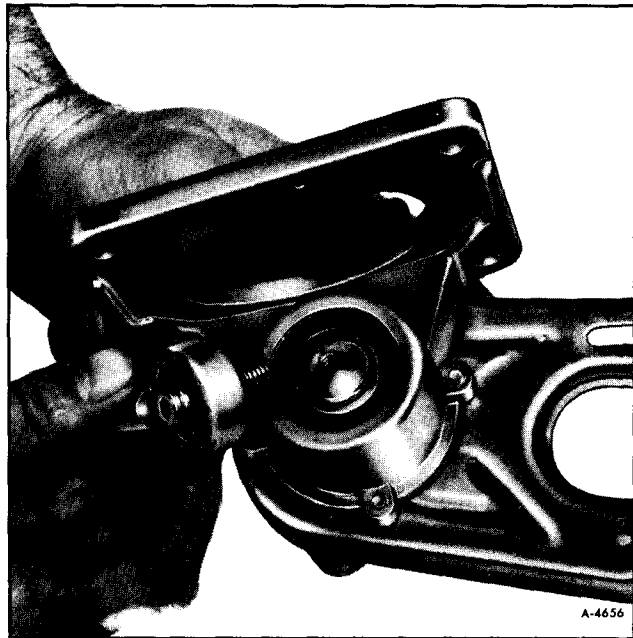

Figure 19—Separating Connecting Rod
6. Remove eccentric screw to separate connecting rod from jack shaft (figure 19).